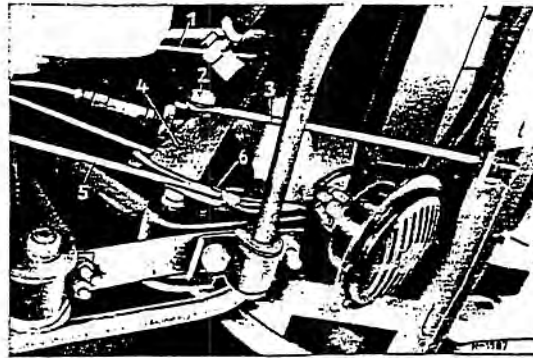

Fig. 42-18/5
2. Pull out the cotter pin from the brake lever (4) and detach the front brake cable (1) (Fig. 42-18/5).
3. Pull out the cotter pin (6) from the cable guide of the hand brake lever (4) and remove the center brake cable (5) (Fig. 42-18/5).
4. Bend the locking plate upward and screw out the hexagon screw (2) (Fig. 42-18/5).
5. Screw out the front hexagon nut at the pull rod (3) and remove the hand brake lever (4) together with the pull rod (Fig. 42-18/5).